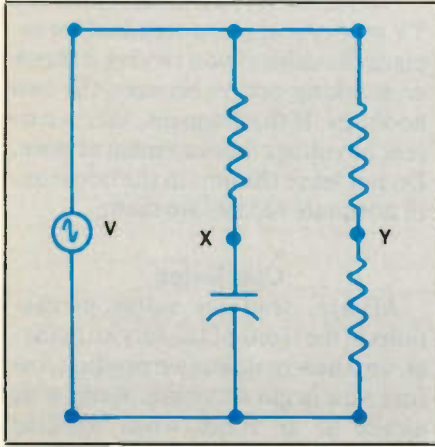

Figure 1.
2. Which of the following statements is true regarding the circuit of Figure 1.?